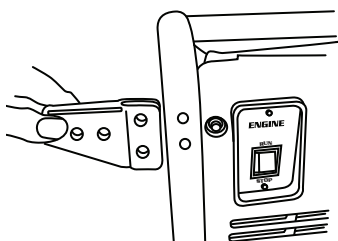

FIGURE 12: Handle Bracket to Frame
- ☐ Handle brackets (2)
- ☐ Handle bars (2)
- ☐ Pin and chain (2)
- ☐ Rubber handle grips (2)
- ☐ M6 X 40 X 8 mm flange-head hex bolts (6)
- ☐ 10 mm flange serrated nuts (6)
1. Hold handle bracket over pre-drilled holes on frame as shown in Figure 12.